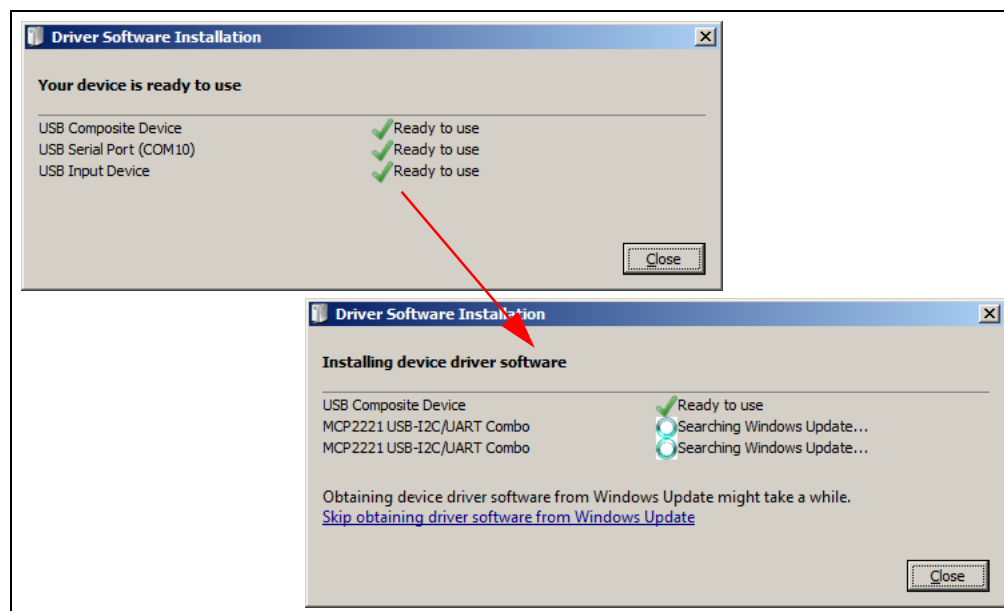

FIGURE 2-1: Driver Software Installation Window.
5. If the USB bridge driver has not previously been installed on the selected USB port, the Driver Software Installation window pops up, prompting for the driver install (see Figure 2-1).